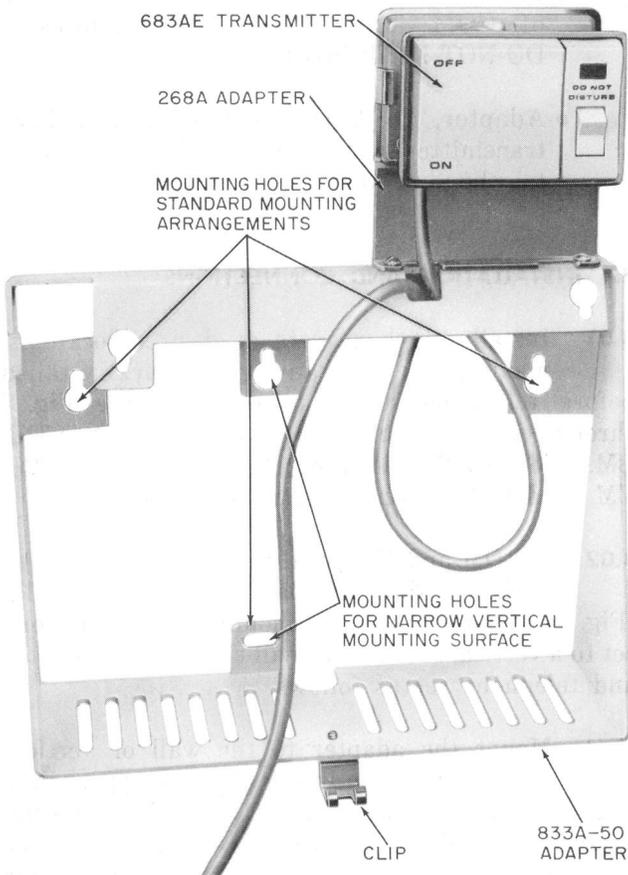
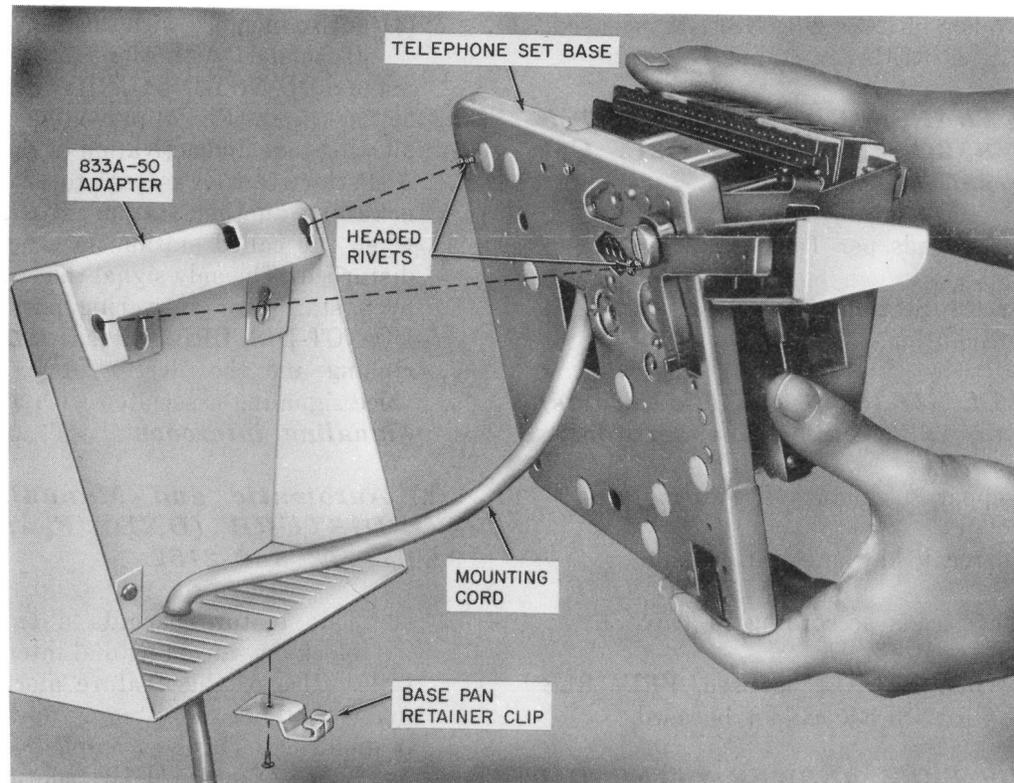

Fig. 4—833A-50 Adapter With 268A Adapter and 683AE Transmitter
Fig. 5—Mounting Telephone Set Base onto 833A-50 Adapter
**3.02** All DM and EM (wall type) sets are shipped with an 833A-50 adapter, screw, and clip (Fig. 4) which are used for mounting the telephone set to a vertical surface. Install the 833A-50 adapter and telephone set as follows.
- (1) Mount the adapter to the wall or vertical surface as shown in Fig. 4, using appropriate fasteners (Section 080-720-105). If the mounting cord is to be dressed down the wall, it is necessary to pass the cord through the notch in the adapter before final attachment of the adapter to the wall (Fig. 5). If the cabling enters through the wall, the mounting cord may be contained within the adapter.
- (2) Remove faceplate and housing from telephone set.
- (3) Hang the telephone set on the adapter from the headed rivets that protrude from the base pan (Fig. 5).
- (4) Secure the telephone set base with the clip and screws at the bottom of the adapter (Fig. 4).
- (5) Install the telephone set options (see paragraph 3.04).
- (6) Replace housing and faceplate.
- (1) If feature is to be added to DM- or EM-type set, a 268A adapter must be used as follows:
- (a) Mount 268A adapter onto 833A-50 adapter with two screws as shown on Fig. 4 with the tabs of the 268A adapter facing outward from the vertical surface. The 683AE-50 transmitter is secured by sliding the transmitter downward between the tabs on the adapter. The telephone set end of the transmitter cord enters the telephone set and is attached to the telephone set base at the small notch on the top edge of the base panel. The excess cord is stored in the 833A-50 adapter.
- (2) For B, BM or C, CM (desk type) sets, the transmitter cord will enter at the rear of the set.
- (3) Refer to Table K for connections.
(4) Also included with the 683AE transmitter (furnished with the HFAI feature) is a manual DO-NOT-DISTURB switch. Depression of the switch (Fig. 4) prevents voice signaling, alerting tone and activation of the microphone. A distinctive tone is sent to any station that is calling another station on **dial intercom** when the called station does not want to be disturbed. The only signal that can be received by a station or answering position with the DO-NOT-DISTURB switch activated are tone ringing and the alerting tone and one way voice signaling associated with an **automatic signaling intercom**.